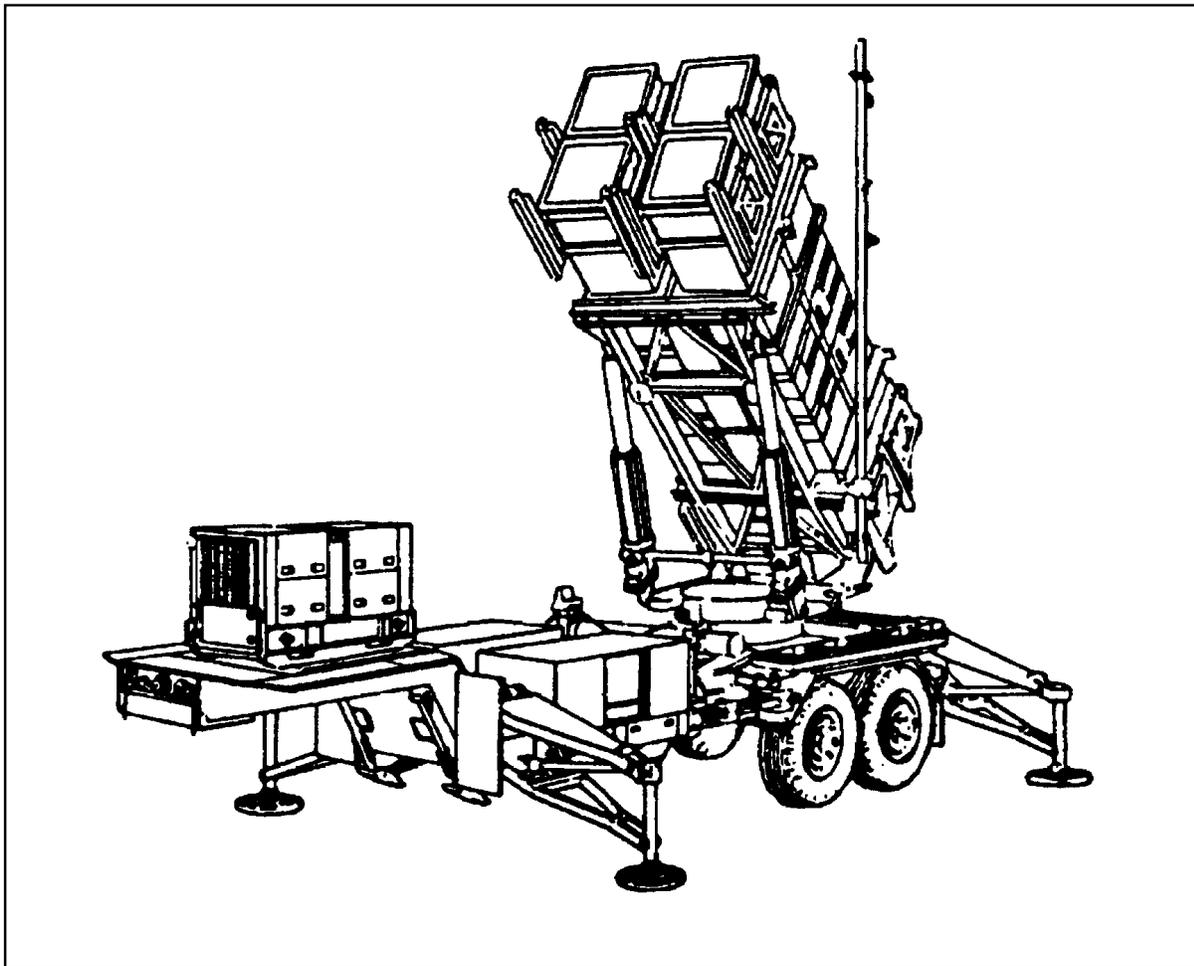

Figure 5-6. Launching Station Emplaced (PAC-2)
5-16. The Launching Station (LS) (figure 5-6) is a remotely operated, fully self-contained unit, that has integral onboard power and carries up to four guided missiles (PAC-2), or 16 missiles (PAC-3). Operation is controlled in the ECS via fiber optics or VHF data link. The LS is mounted on an M-860 semi-trailer towed by an M983 HEMTT. Leveling equipment permits LS emplacement on slopes of up to 10°. The LS is trainable in azimuth $\pm 110^\circ$ and elevates to a fixed, elevated, launch position. The LS has to be precisely emplaced and aligned prior to launch. Proper emplacement and alignment is critical for engagement of ballistic missiles.